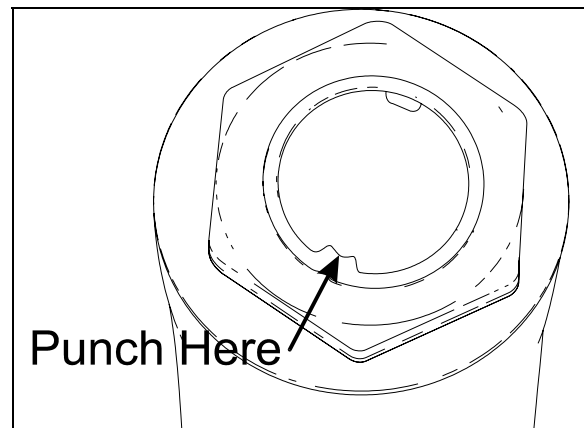

FIGURE 16: FIXING NUT PUNCH MARK 16098
3. Lock nut with sector shaft using a punch mark into the groove (Refer to figure 16).